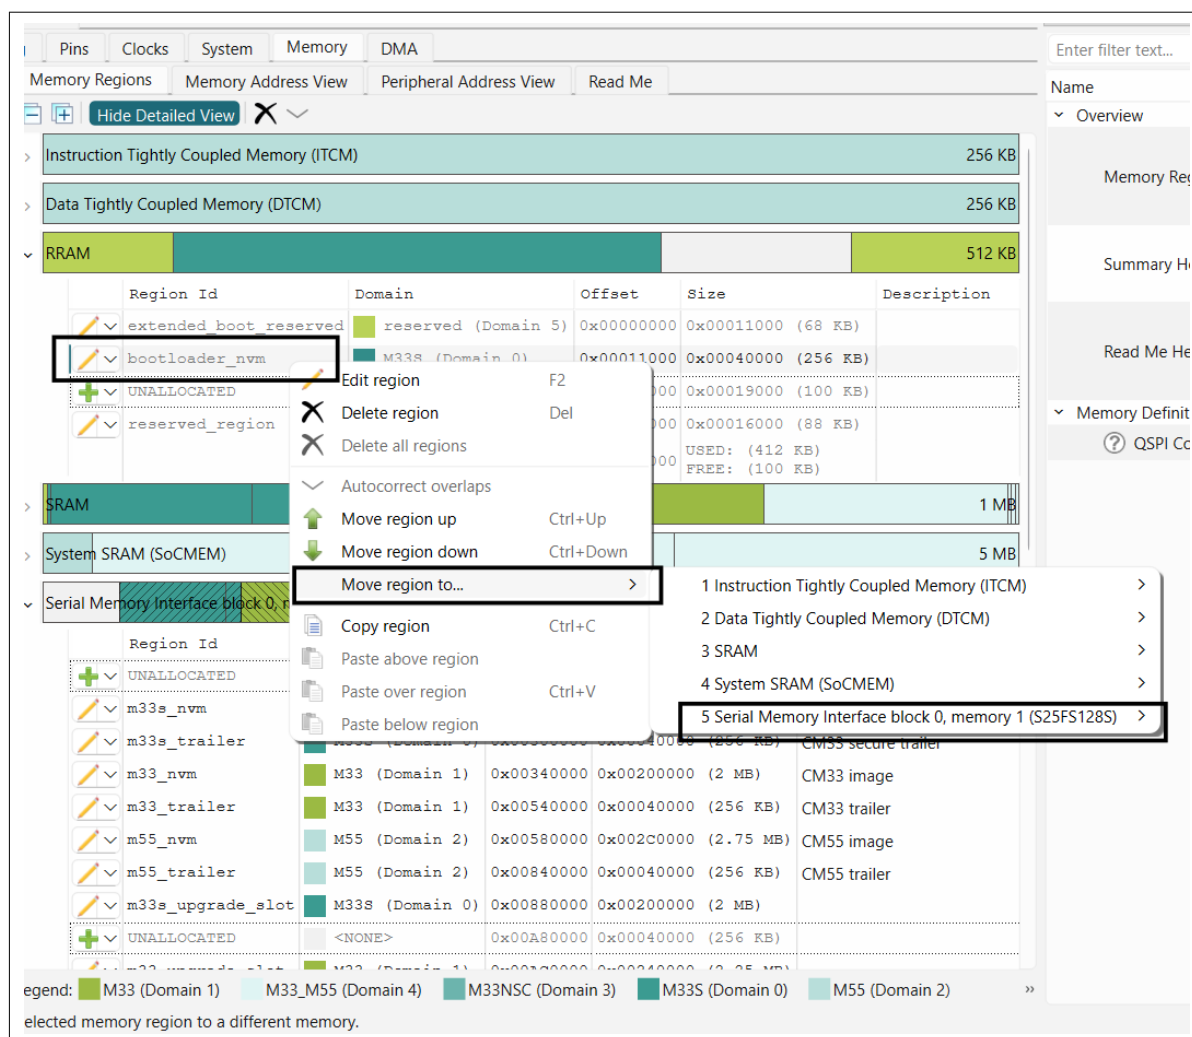

Figure 52 Move region to external flash
1. Move the "bootloader_nvm" region in the **Memory** tab of the Device Configurator from RRAM to the Serial Memory Interface block as shown in Figure 52. Specify the offset `0x00100000`